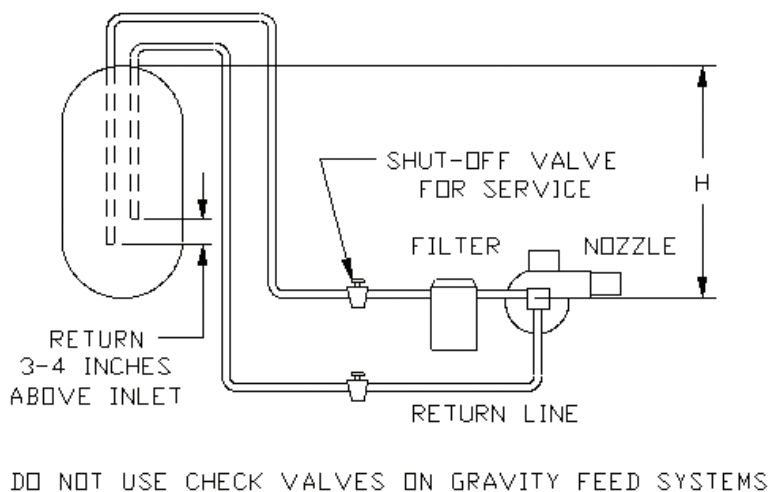

FIGURE 10.3: TWO-PIPE GRAVITY FEED SYSTEM
- c) TWO-PIPE GRAVITY SYSTEM (not recommended) - Used when a fuel oil storage tank is located above an oil burner fuel pump. See Figure 10.3. A vertical distance from top of the tank to center line of the pump (Dimension 'H') over 8 feet will result in a pump inlet pressure in excess of the 3-psi limit in NFPA-31. This type of system should be converted to a one-pipe gravity system, as doing so will result in lower inlet line flow and longer filter life.